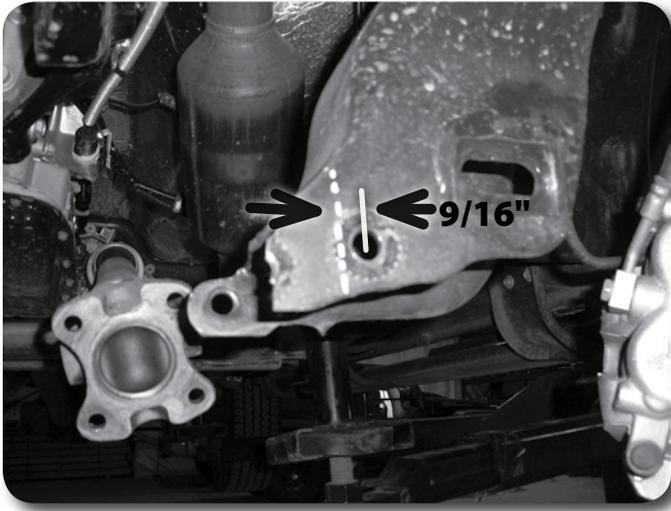

Figure. 11
30. The driver's side rear lower control arm pocket must be trimmed to provide clearance for the differential in its lowered position. Measure inward from the center of the outer crossmember mounting hole $9/16''$ and mark. Repeat on the opposite side of the pocket. Make a continuous line connecting the two marks over the top edge of the pocket. Trim the pocket on the line with a saw-zall or cut off wheel. Paint any exposed metal to prevent corrosion **Figure 11 / 12**.